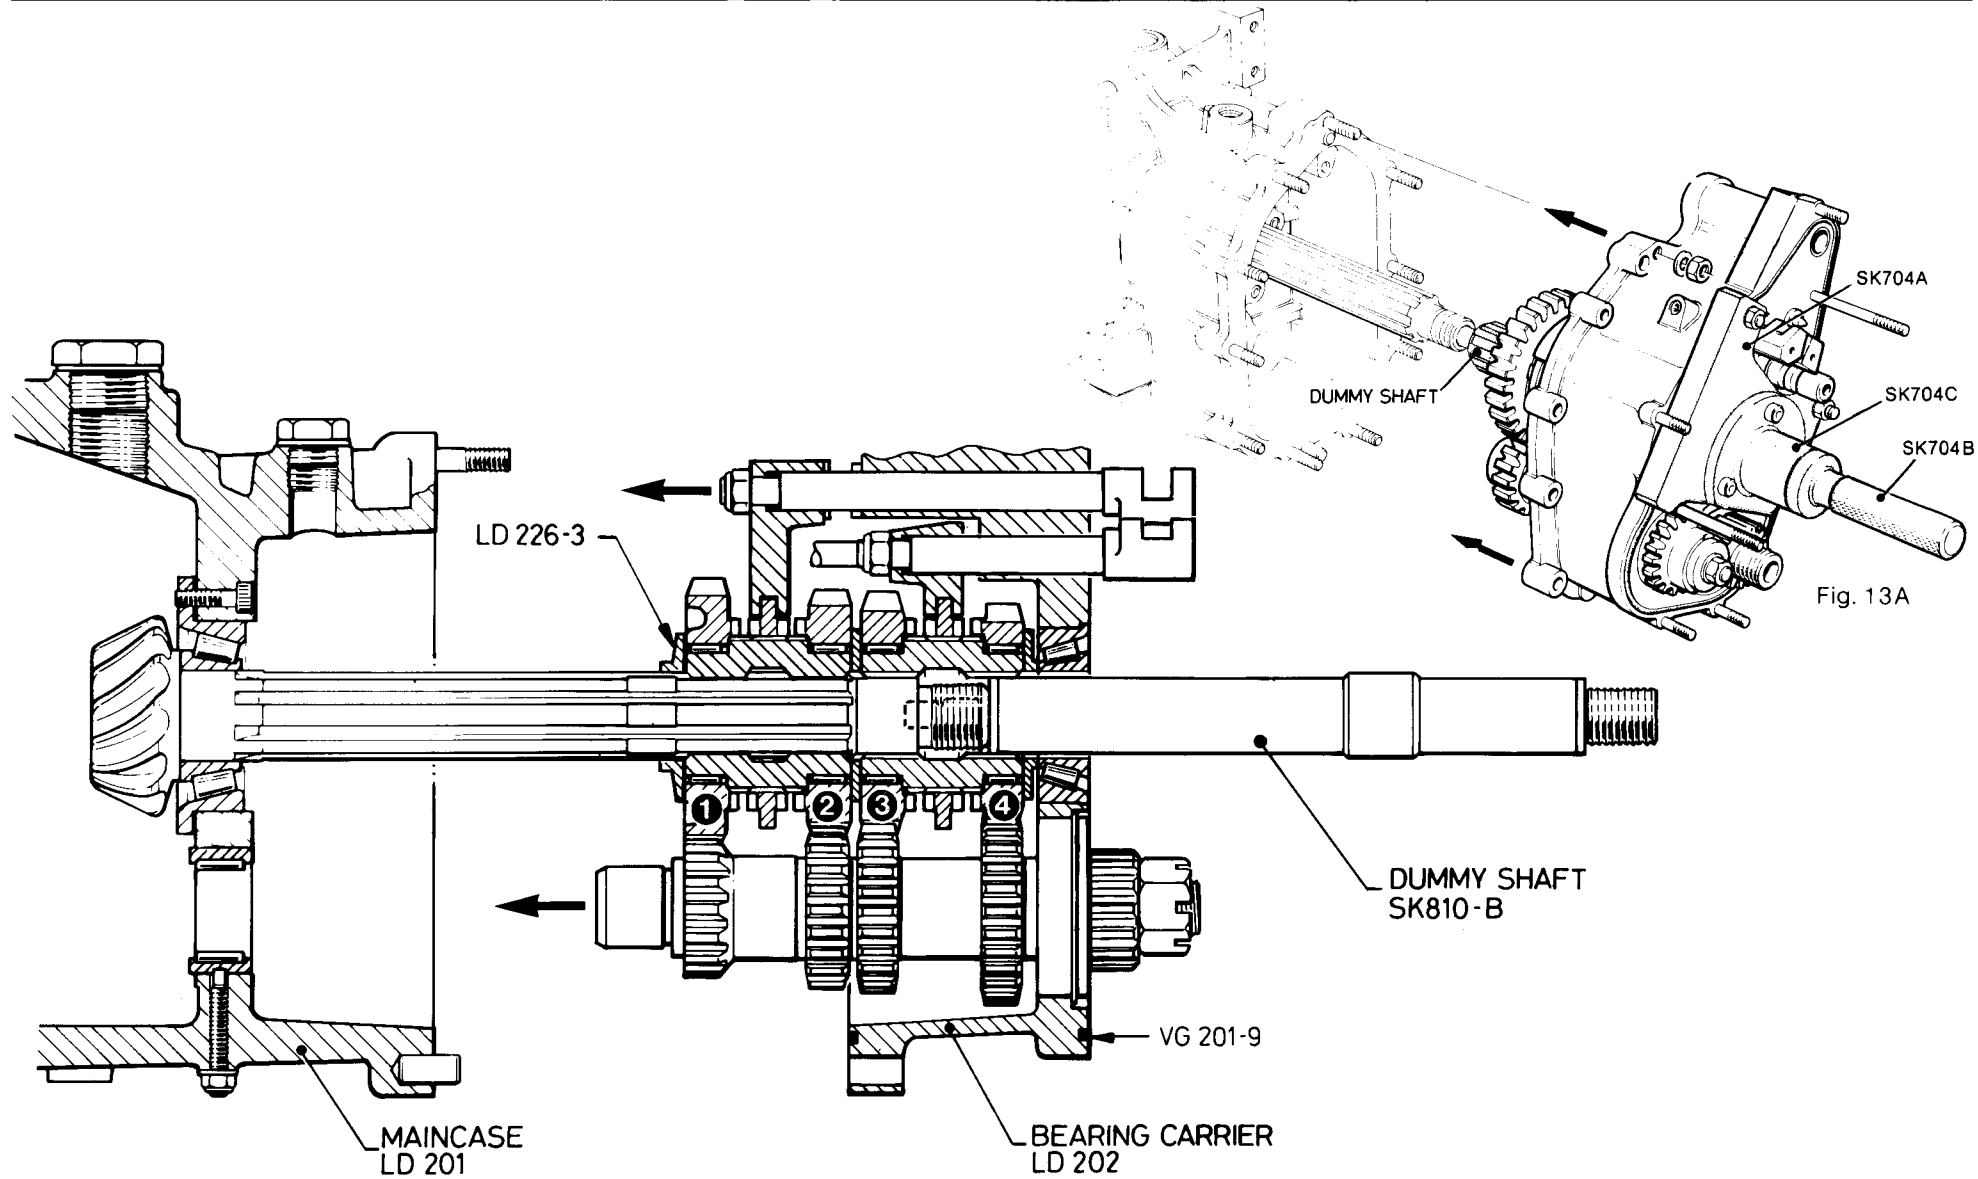

Fig. 13
- b) Insert the dummy shaft from the rear of the bearing carrier and assemble the pinion shaft components on to it, locating the clutch rings into their respective selector forks. Take care not to confuse the front and rear spacers (LD 226-3) & LD 229). (LD 226-3 is the thicker one, and must be fitted next to the pinion head bearing, as shown in Fig. 13).